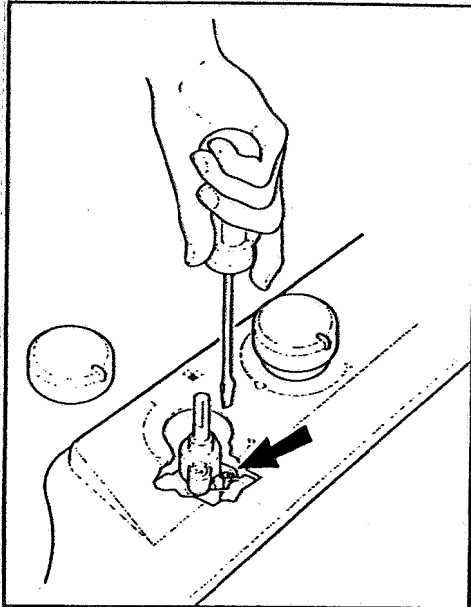

FIGURE 2
3. Using an appropriate sized screwdriver, turn the adjustment screw in the base of the gas valve (See Figure 2). until the flame bead is approximately 4mm long. Check and ensure that the flame does not extinguish when adjusting the control knob quickly from maximum to minimum flame.